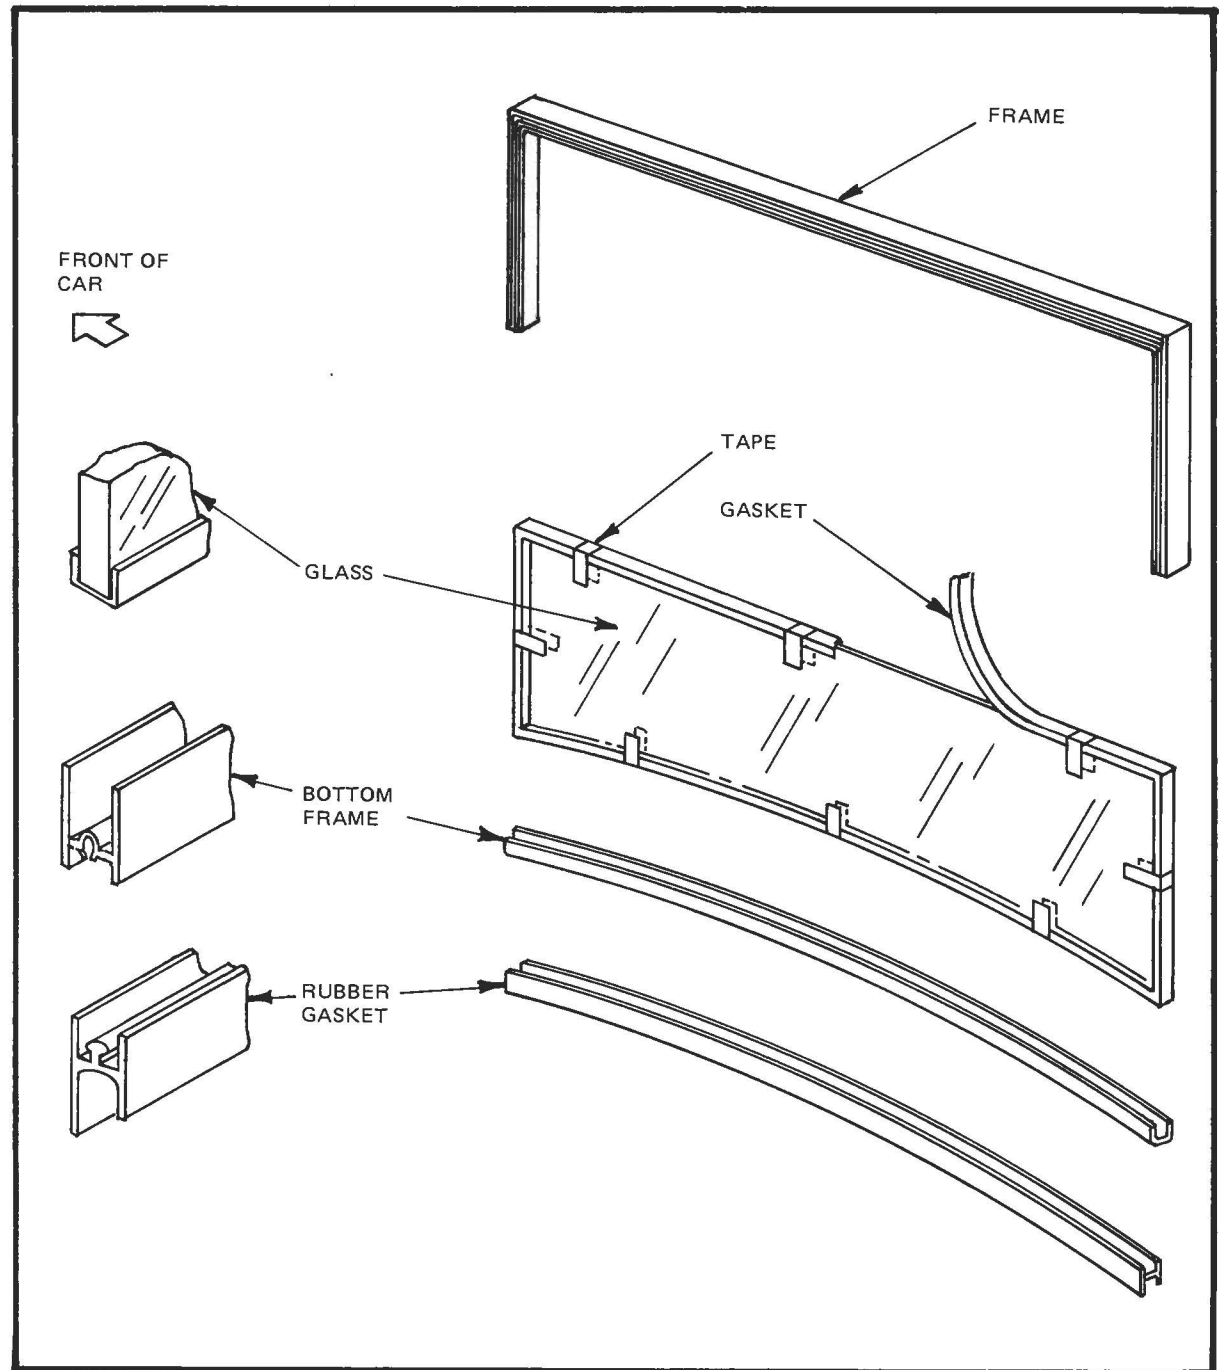

Figure 51
WINDSHIELD (Refer to Figure 51)
- ☐ Slide windshield over body, centering each side post on the raised mounting pads on the body sides. (Loosen the construction screw on each side of the frame if necessary.) Angle the windshield back so that the angle of the frame matches that of the forward edge of the mounting pad. (Figure 51) The groove in the edge of the windshield must face forward to allow installation of the convertible top.